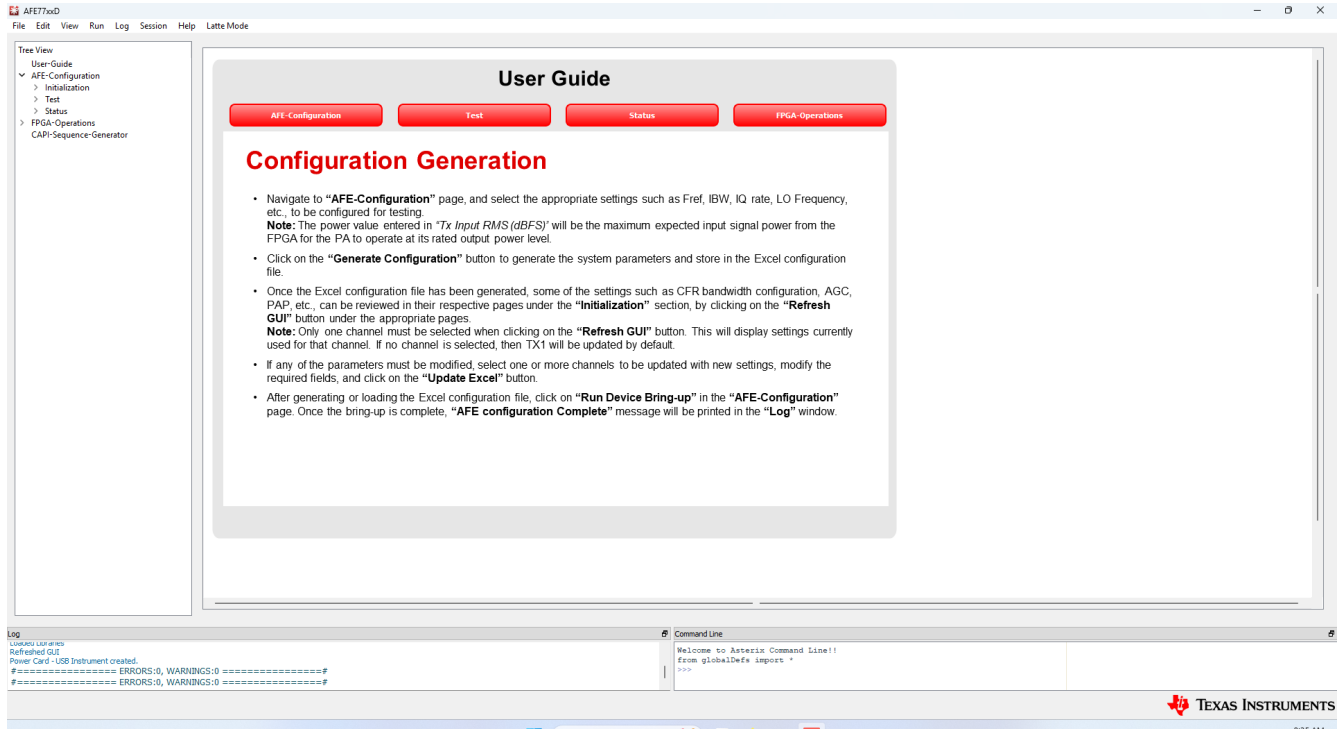

Figure 3-4. AFE77xxD Latte Landing Page
2. Wait until the GUI loads. Figure 3-4 shows the landing page.